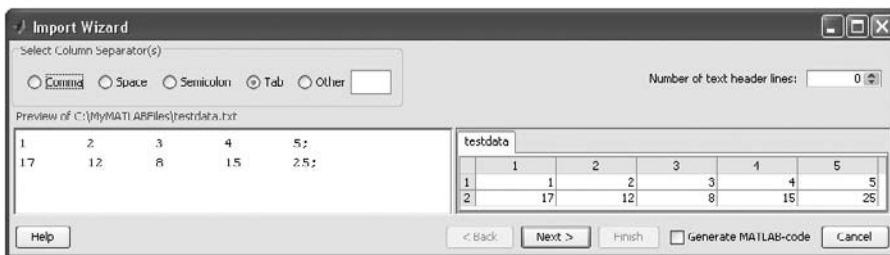

Figure 3.4–1 The first screen in the Import Wizard.
2. The Import Wizard processes the contents of the file and displays tabs identifying the variables it recognizes in the file, and displays a portion of the data in a grid, similar to a spreadsheet. The Import Wizard uses the space character as the default delimiter. After you click **Next**, the Import Wizard attempts to identify the delimiter (see Figure 3.4–1).